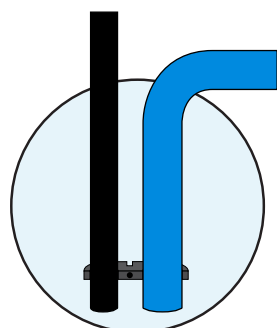

Fig 1.
2. Place the half with the square cut out, around the upright of the barrier (the larger aperture) and place the ground socket in the adjacent smaller aperture making sure that the bottom of the socket is on the ground. (Fig 1)